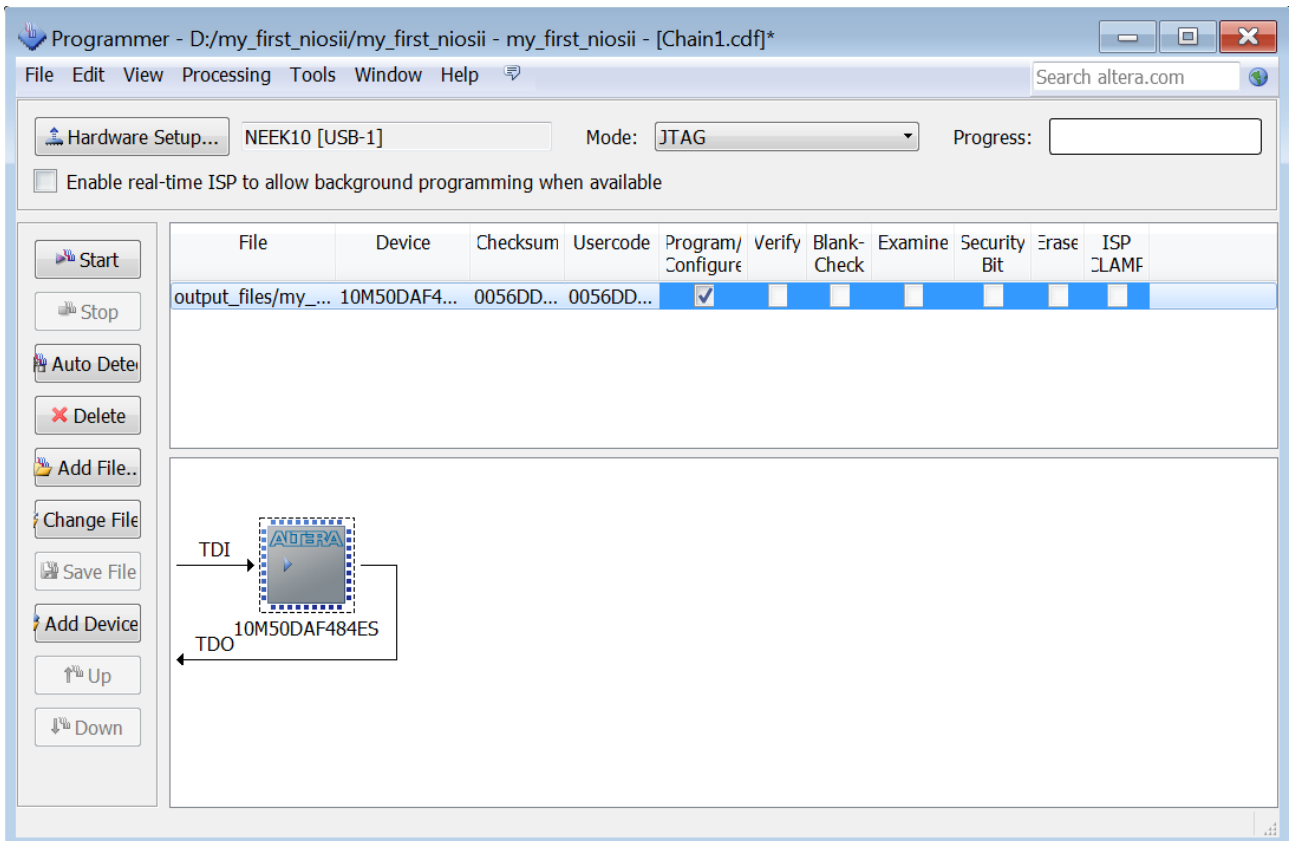

Figure 1-52 Prepare to program myfirst_niosii.sof in Quartus II programmer
12. Click the Program/Configure option, as shown in Figure 1-52.